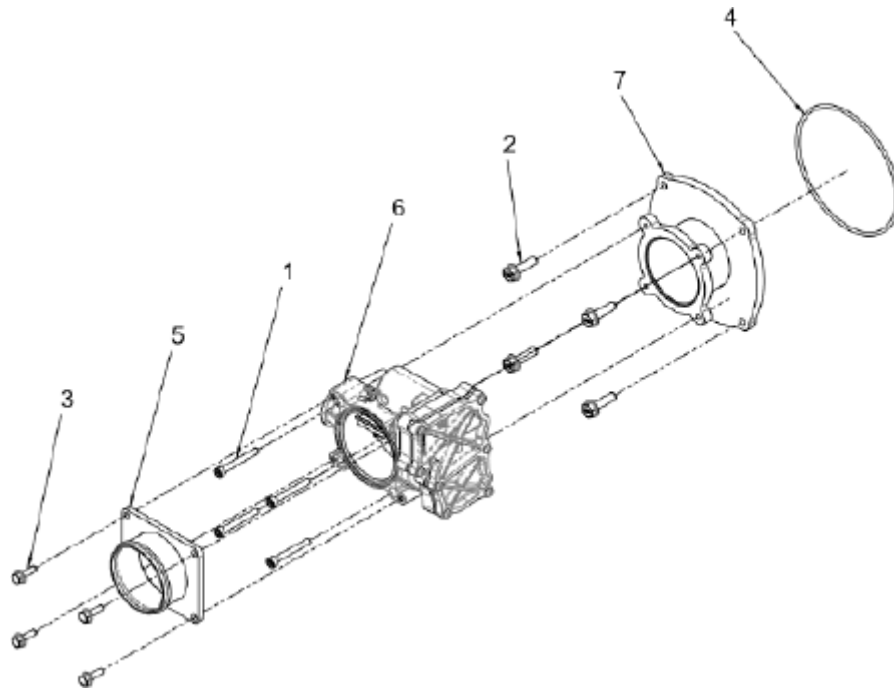

Figure 84. Throttle Body Assembly
1. Remove the four flange bolts (Figure 84, Item 3).
2. Remove the throttle inlet adapter (Figure 84, Item 5).
3. Remove the four bolts (Figure 84, Item 1) from the throttle body (Figure 84, Item 6).
4. Carefully remove the throttle body (Figure 84, Item 6).
5. Remove the four throttle body adapter bolts (Figure 84, Item 2).
6. Remove the throttle body adapter (Figure 84, Item,7) and gasket (Figure 84, Item 4).
8. Clean the throttle body adapter from any debris and place the throttle adapter gasket (Figure 84, Item 4) onto the throttle body adapter (Figure 84, Item 7).
10. Insert and torque down the four throttle body adapter bolts (Figure 84, Item 2) to 22 ft/lbs.
11. Carefully install the throttle body (Figure 84, Item 6) onto the throttle body adapter (Figure 84, Item 7).
12. Apply PSI approved 242 Loctite to all four throttle body bolts (Figure 84, Item 1).
14. Place the throttle body inlet adapter (Figure 84, Item 5) onto the throttle body (Figure 84, Item 6).
15. Insert and torque down the four-throttle body inlet adapter bolts (Figure 84, Item 3) to 10 ft/lbs.